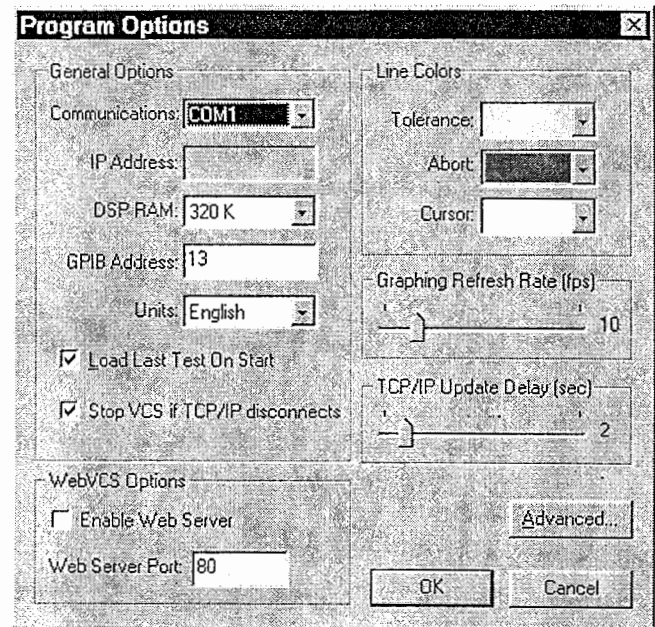

Figure 6-10. Program Options Window.
4. Select the General Options command to open the Program Options window. See Figure 6-10.